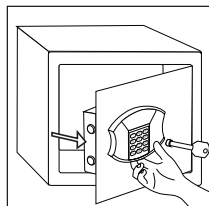

Figure 3
3. Pull door open using handle located at the bottom of the keypad (Figure 3).